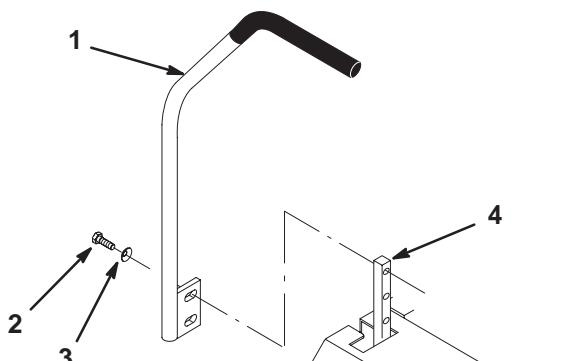

Figure 3
1. Remove the 4 bolts (3/8 x 1 inch) and 4 curved washers (3/8 inch) which attach the motion control levers to the control arm shafts for shipping (Fig. 3).
2. Place the levers (with the mounting plates toward the rear of the machine) on the outside of the control arm shaft and loosely secure them with the 4 bolts and curved washers removed in step 1 (Fig. 3).